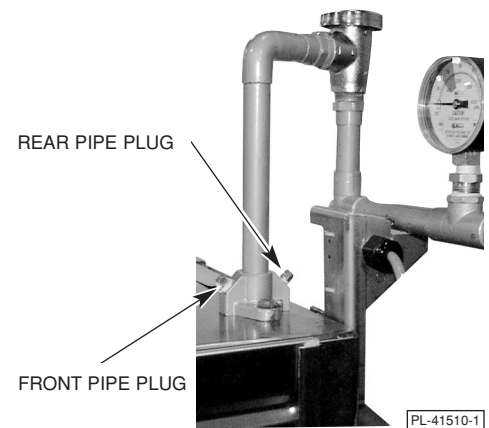
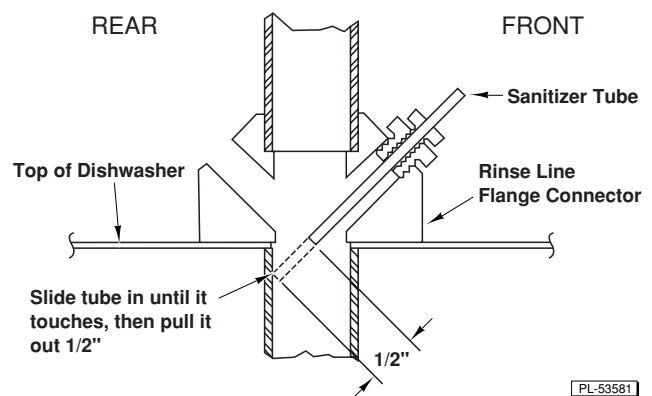
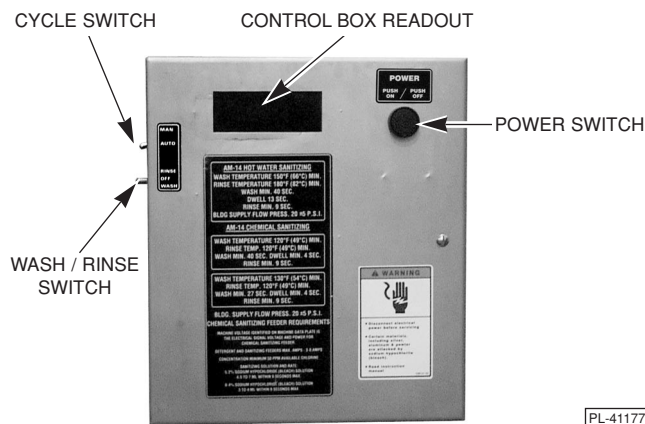

Fig. 8
Fig. 9
Fig. 12
The rinse line flange connector on top of the dishwasher has two  $\frac{1}{8}$ " NPT pipe plugs (Fig. 8).
- Remove either front or rear plug (Fig. 8) for installation of the rinse aid dispenser tube unless a chemical sanitizer is to be installed. If installing a chemical sanitizer, use the rear hole for the rinse aid dispenser.
- Remove the front pipe plug (Fig. 8) for installation of the chemical sanitizer tube. To assure an unobstructed flow of sanitizer, locate the sanitizer tube in the center of water flow by drilling the sanitizer tube fitting so that its inside diameter is equal to the outside diameter of the tube. Slide the tube into the flange until it touches the opposite (rear) side and then pull it back out  $\frac{1}{2}$  inch (Fig. 9).
Open the manual gas valve (if applicable). Push the POWER switch ON (Fig. 12). If all machine doors are closed, the fill cycle will begin automatically. During the fill cycle, the word FILL will flash intermittently on the control box readout (Fig. 12). **NOTE:** If the fill cycle did not begin automatically, make sure that the CYCLE SWITCH (Fig. 12) is on AUTOMATIC and the WASH / RINSE switch (Fig. 8) is OFF.
When the **CYCLE SWITCH** (Fig. 12) is set on **AUTOMATIC**, the wash and rinse cycles begin automatically. The wash cycle is initiated when the machine doors are closed. The rinse cycle begins when the wash cycle is completed. **NOTE:** When the **CYCLE SWITCH** is set on **AUTOMATIC**, the **WASH / RINSE** switch (Fig. 12) must be **OFF**.